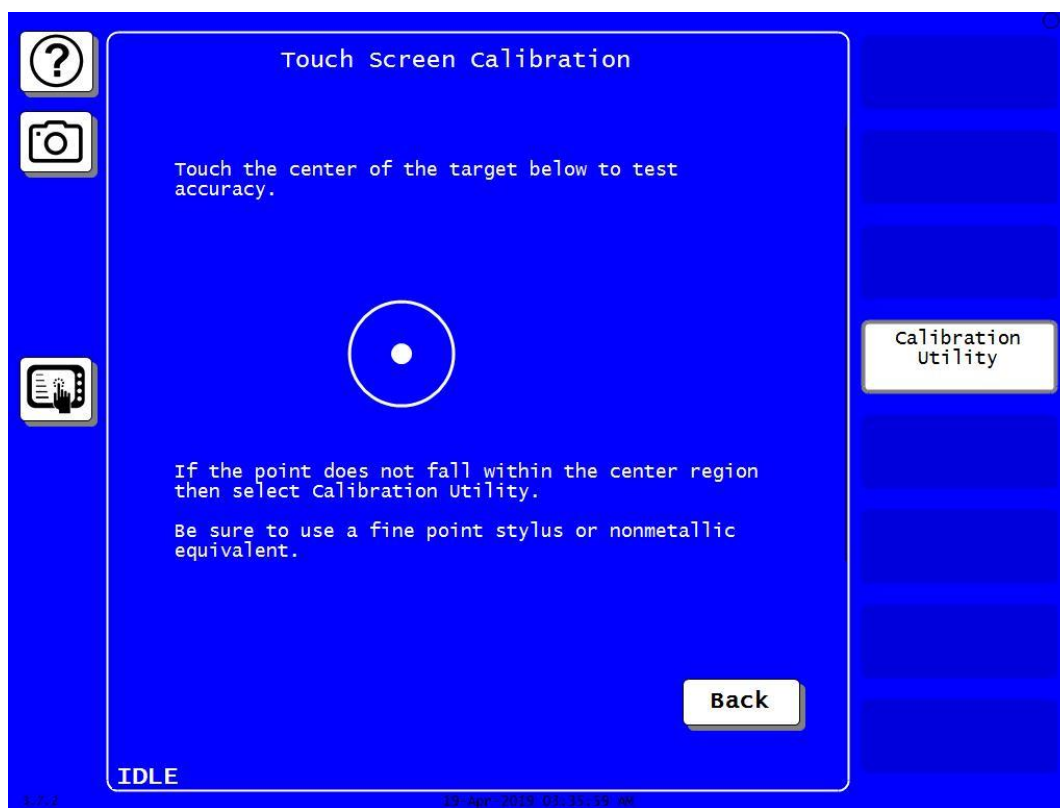

Figure 2. Touch Screen Calibration
17. Once the main program screen appears touch the blue INITIALIZATION Menu button, then touch the NEXT button until you can select DIAGNOSTICS. Once in the DIAGNOSTICS menu, press the Calibrate Touch Screen button and the following screen will be displayed (See Figure 2 below).